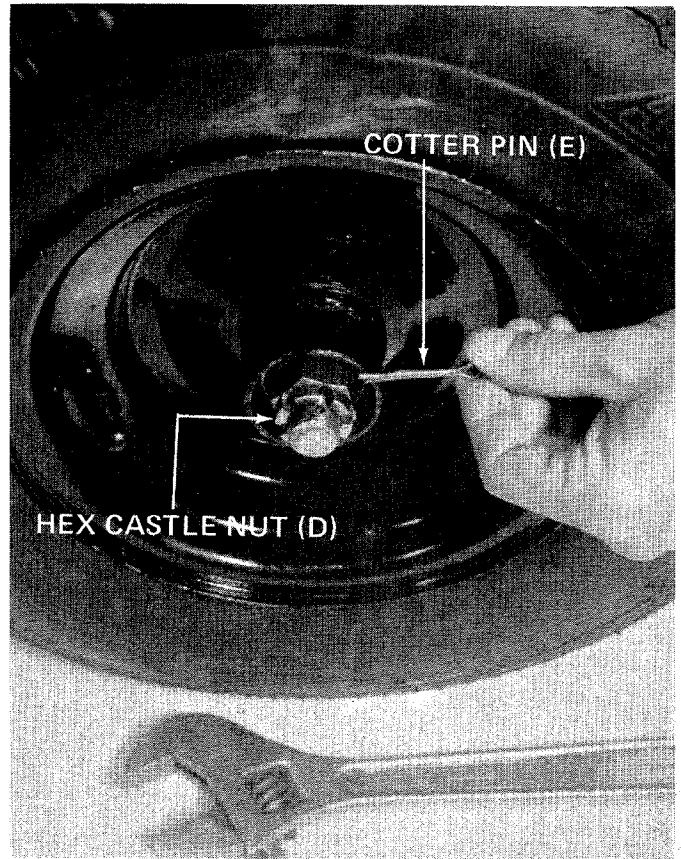

FIGURE 4
3. Thread hex castle nut (D) on axle. Tighten castle nut until snug, back off approximately 1/3 turn or until one of the slots on the castle nut lines up with hole in axle. Secure castle nut to axle with cotter pin (E). See figure 4.